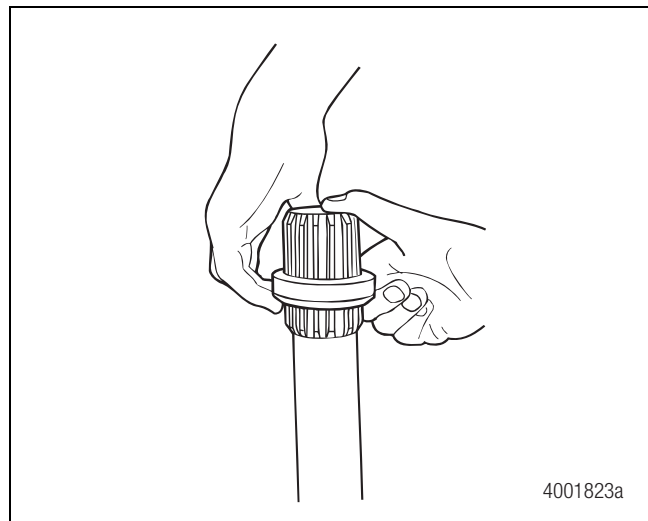
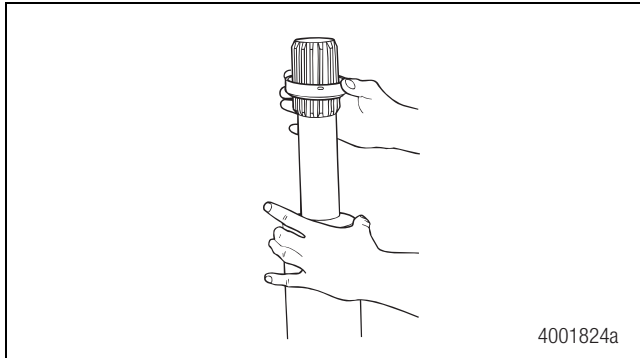

Figure 4.15
Figure 4.16
5. Remove the seal. Figure 4.15. Remove the shroud. Figure 4.16.